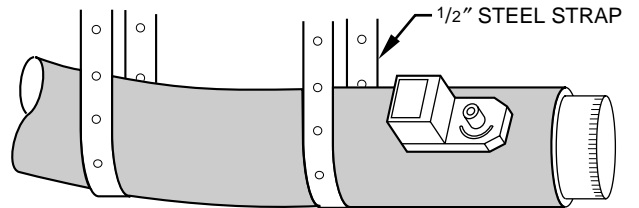

Fig. 5—Insulated Round Duct Work
4. Insulate damper using 1-1/2 in. to 2-in. insulation. (Check your local codes.) (See Fig. 5.)